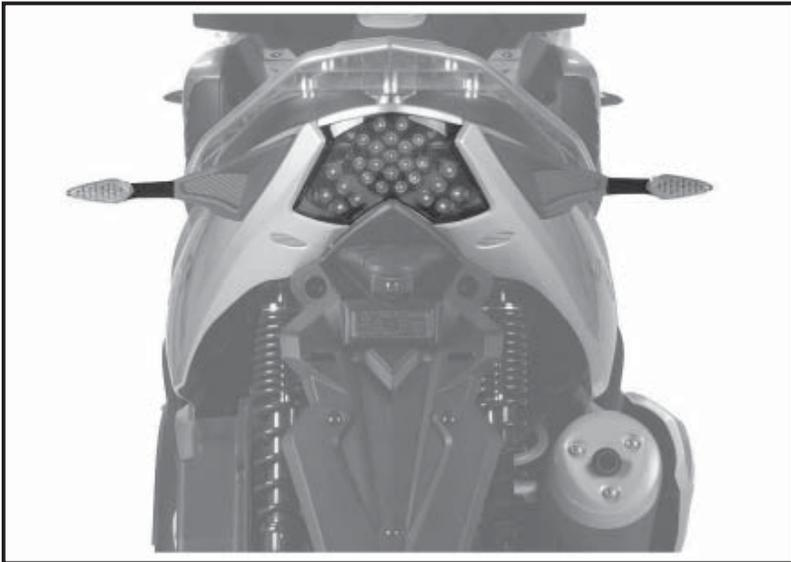

Fig. 01
6.16 REAR LIGHT CLUSTER (Fig. 01)
6.17 NUMBERPLATE LIGHT (Fig. 01)